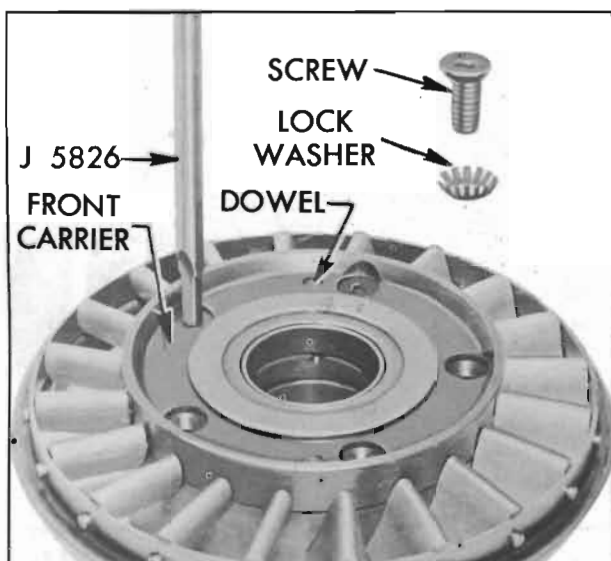

Figure 5-47—Removing Front Carrier Screws
3. Use Screwdriver J 5826 to remove the stator blade front carrier screws and lock-washers, then remove front carrier which is also held to rear carrier by two dowels. See Figure 5-47.